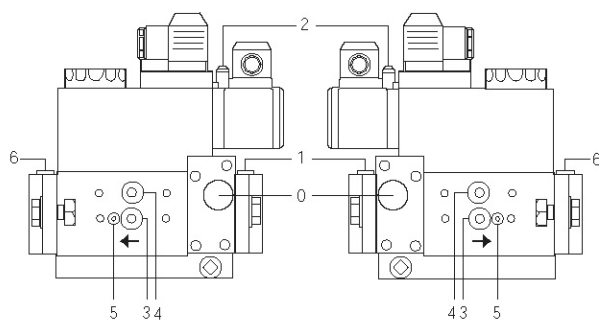
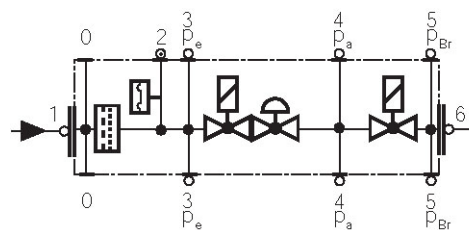

Fig. 35
Fig. 36
- Change the filter if the pressure difference between pressure connection 1 and 3 (Fig. 35-Fig. 36) is  $\Delta p > 10$  mbar.
- Change the filter if the pressure difference between pressure connection 1 and 3 (Fig. 35-Fig. 36) is twice as high compared to the last check.